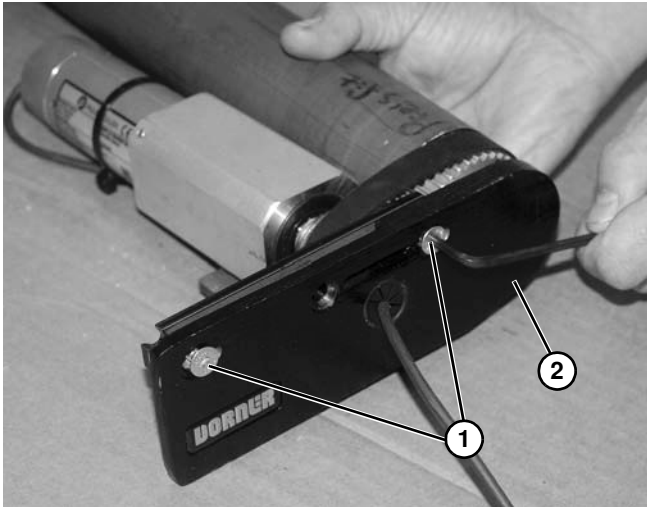

Figure 100
6. Remove two head plate fastening screws (**Figure 100, item 1**) securing head plate (**Figure 100, item 2**) onto drive end assembly.